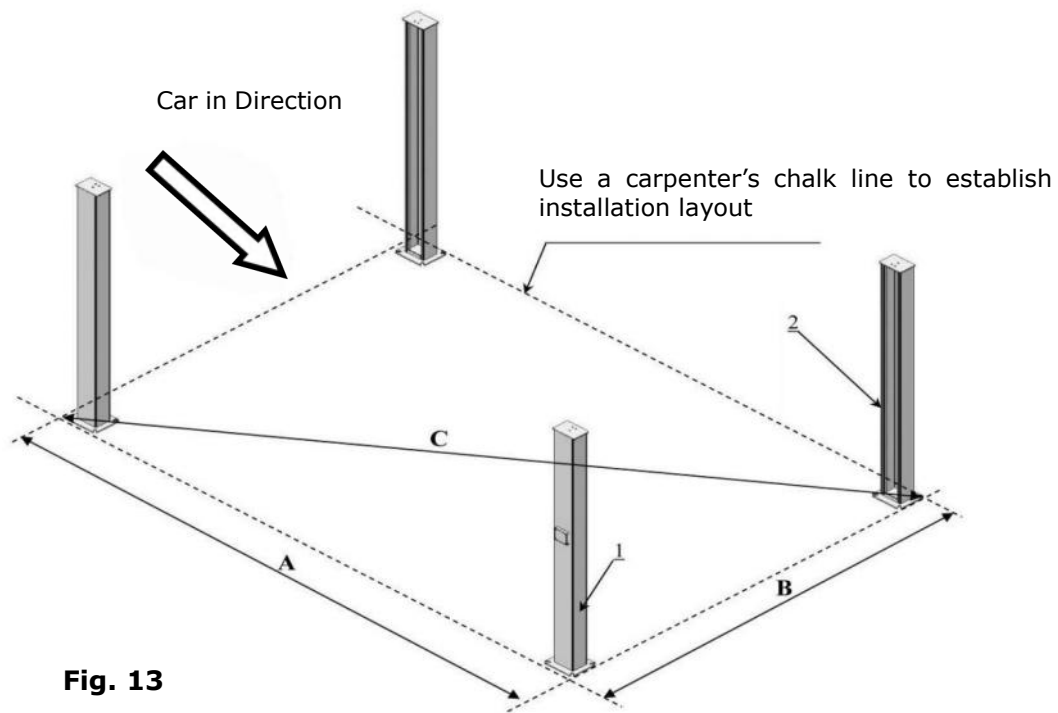

Fig. 13
- C.** Use a carpenter's chalk line to establish installation layout as per Table 1. Make sure the size is right and base is flat (**see Fig. 13**).